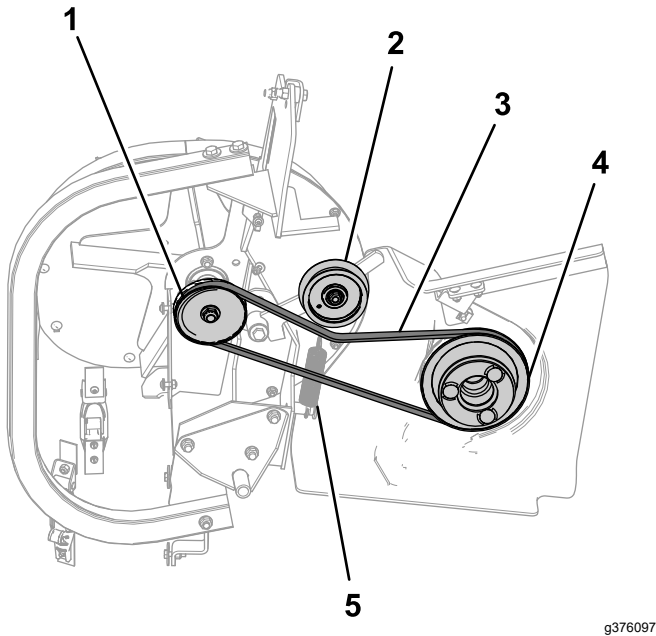

Figure 37
1. Arrange the blower belt around the drive pulley as shown in Figure 37.